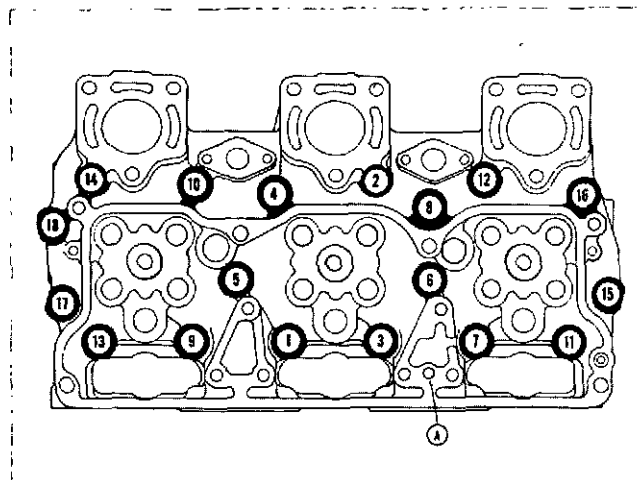
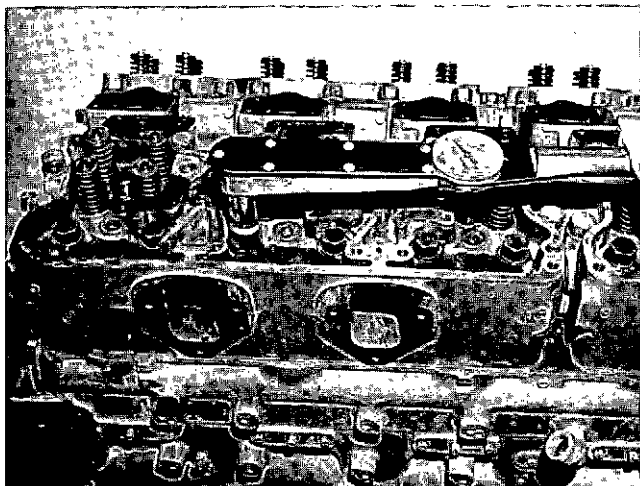

Fig. 14-1-40, V414192. Head capscrew tightening sequence
Fig. 14-1-41, V414142. Tightening cylinder head capscrews
1. Make certain breather hole (A, Fig. 14-1-40) in each cylinder head is open.
6. Tighten capscrews slightly in sequence shown in Fig. 14-1-40. Continue tightening in sequence in 100 ft-lb [13.8300 kg m] increments with a torque wrench to 315 to 335 ft-lb [43.5645 to 46.3305 kg m]. Fig. 14-1-41.